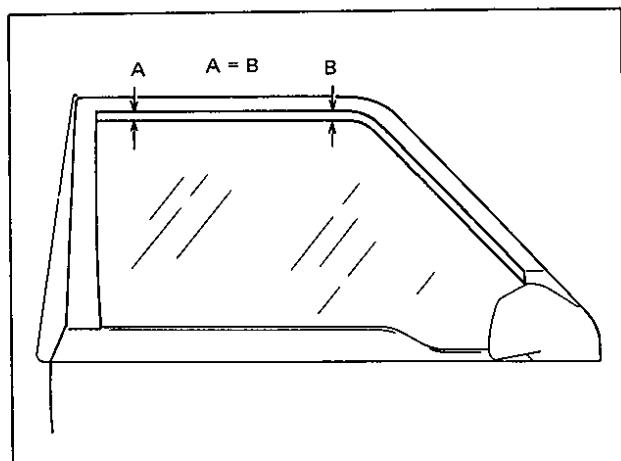

Fig. 9-10 Reference Mark Alignment
- Adjust equalizer of window regulator so that measurements A and B as indicated in Fig. 9-10 are equal.